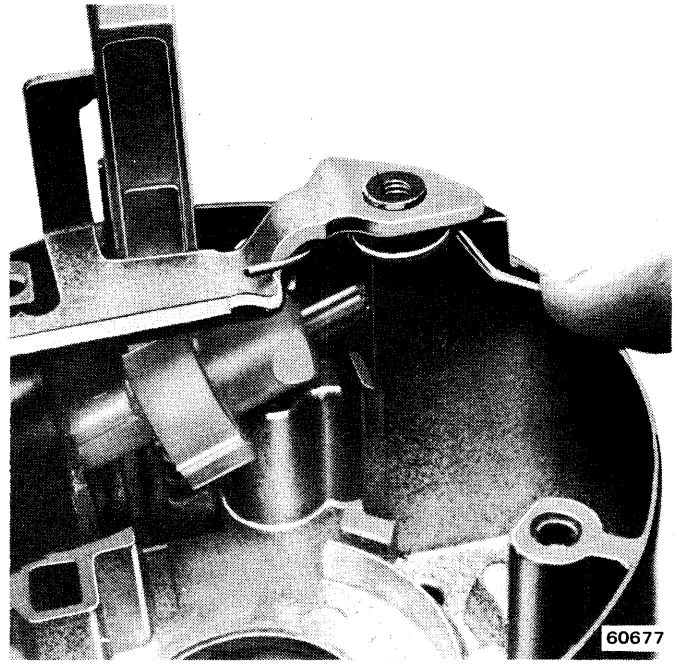

Fig. 11-20 Securing Key-Release Lever Spring
- (7) Raise key-release lever slightly and install end of release lever spring between lever and housing boss (fig. 11-20).